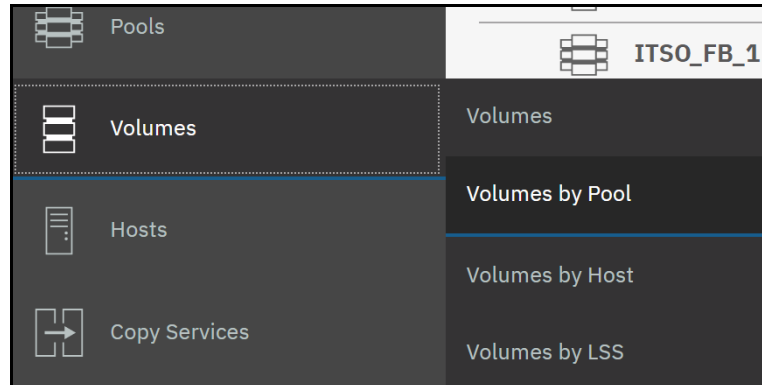

Figure 9-45 Views for Volumes
1. From the system window, select the **Volumes** icon. Four options are provided, as shown in Figure 9-45 on page 279: